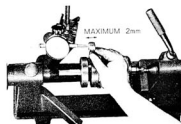

Fig. 4-16-22
- As shown in Fig. 4-16-22, pinch the connecting rod small end with your fingers and check the axial play of the small end for wear of both big end crank pin and bearing.